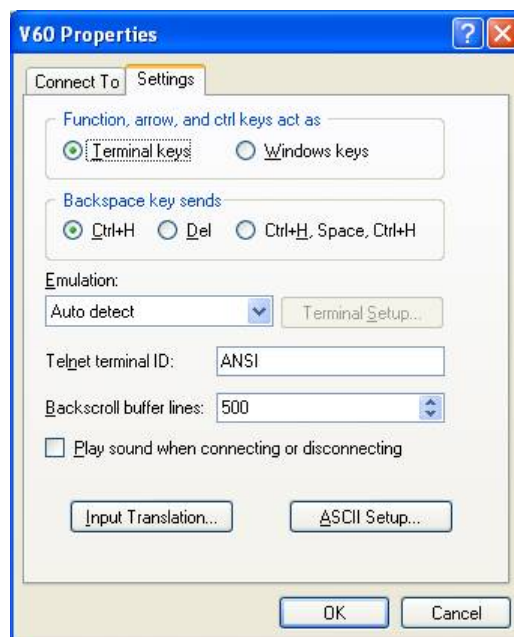

Figure 6-6: Entering HyperTerminal Settings
7. Select these HyperTerminal settings, then click **ASCII Setup** (Figure 6-6).